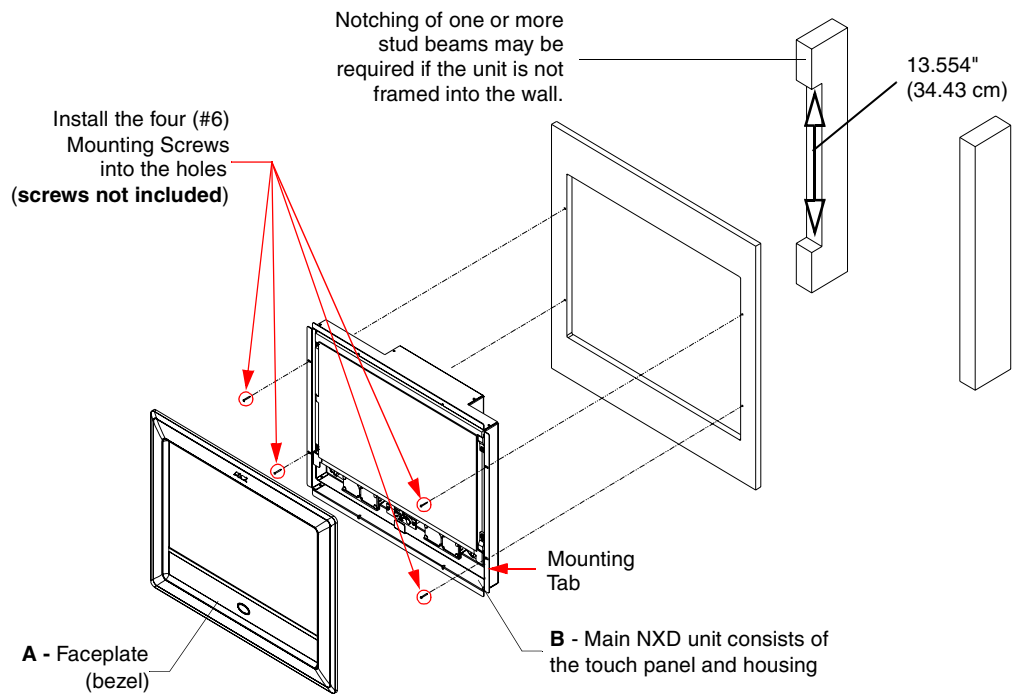

FIG. 62 Wall Mount panel (NXD) installation using screws
6. Remove the magnetic faceplate/bezel (A in FIG. 62) from the main NXD unit (B in FIG. 62) by gripping the faceplate and pulling with gentle outward force.
9. Cutout the notched beam (FIG. 62 on page 84) using a height of 13.554" (34.43 cm) and a depth **using the following guideline**. *This notched beam is located on the side of the NXD unit furthest away from the connectors.*
- Calculate the distance from the edge of the mounting ridge (FIG. 62) to the rear point (on the box) where the beam touches the back box.
17. Place the magnetic faceplate (A in FIG. 62) back onto the main NXD unit. Make sure to align the Microphone, Light, and PIR Motion sensor locations to their respective openings on the front bezel/faceplate.